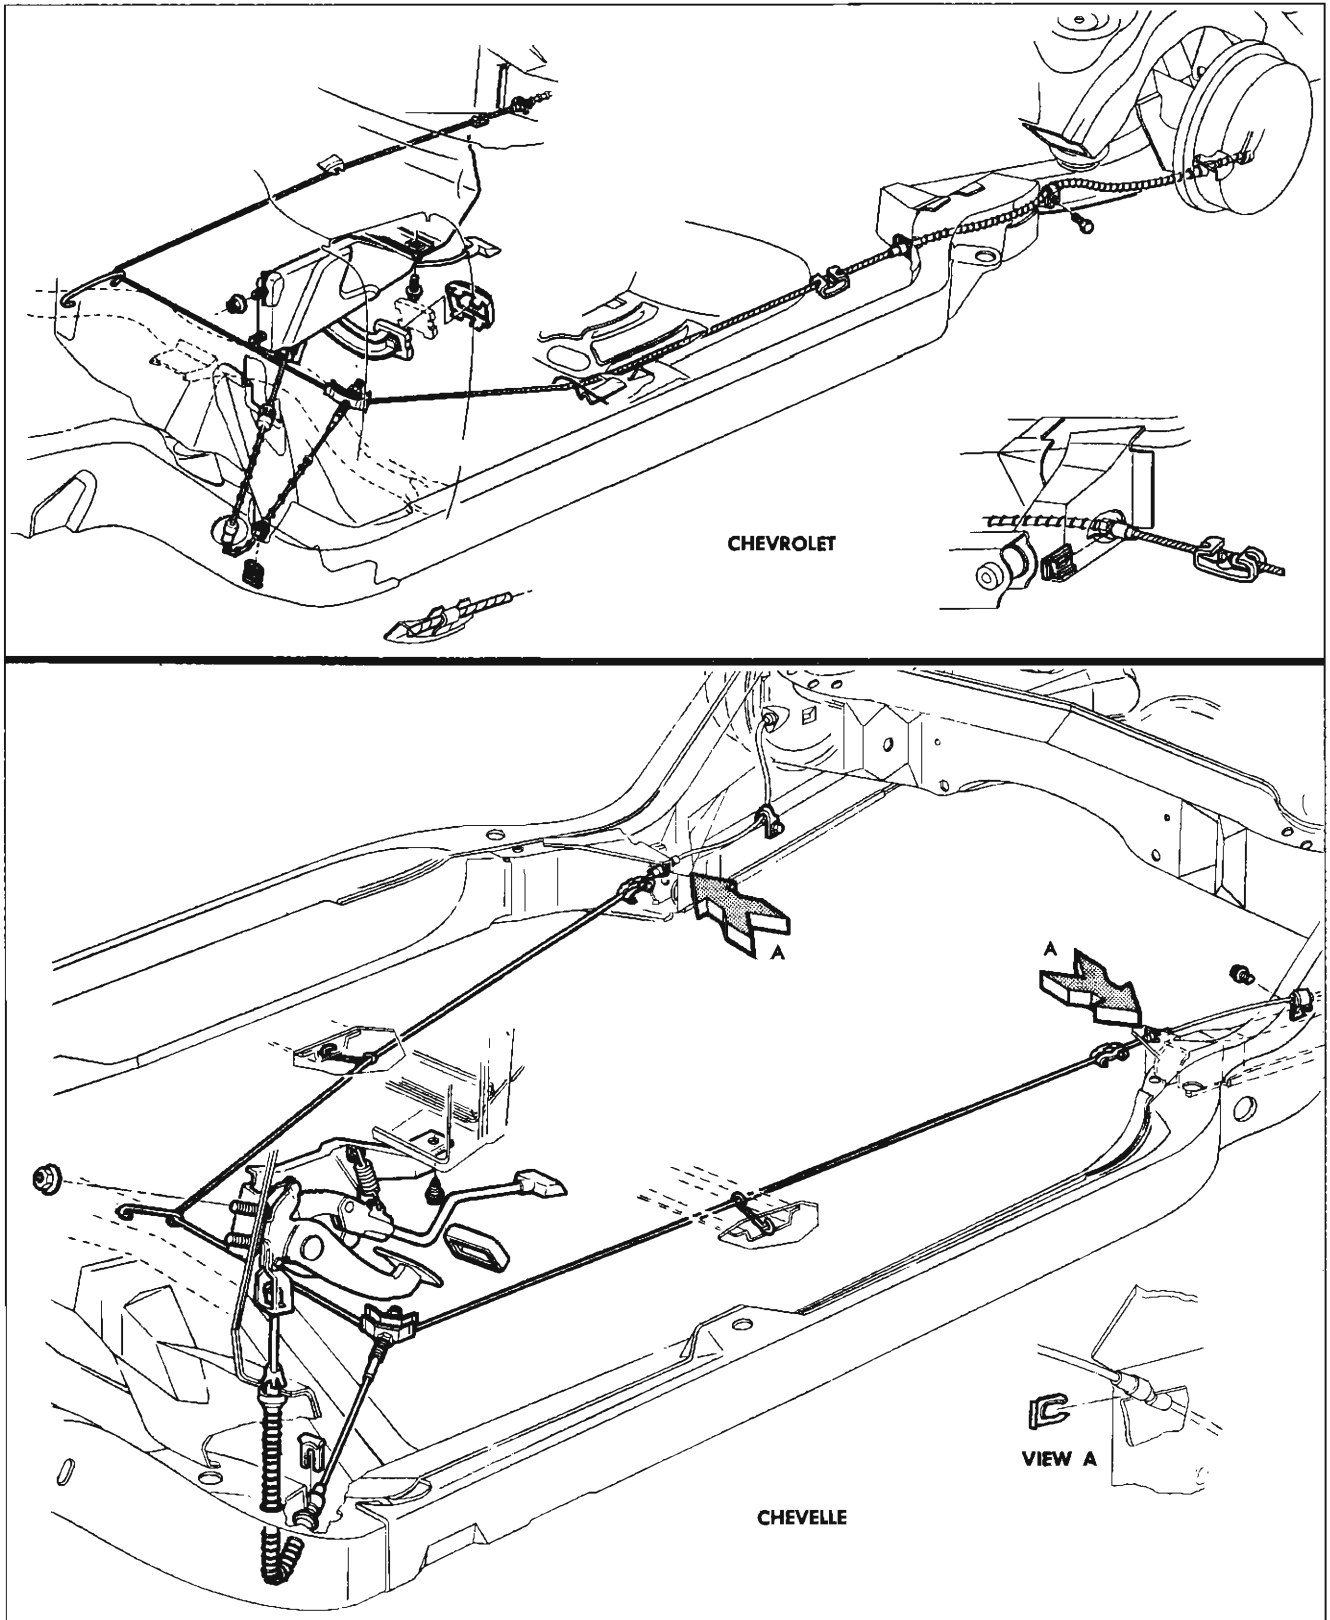

Fig. 15—Parking Brake System
#### CHEVROLET AND CHEVELLE (Fig. 15)
3. Install three cable guides in proper position (fig. 15).